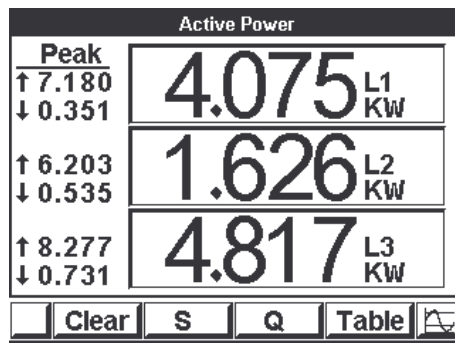

Figure 5.5. Active power
- 2 Click “Enter” The **Active Power** screen appears (Figure 5.5).
- 2 Click "Enter" The **Active Power** screen appears (Figure 5.5).